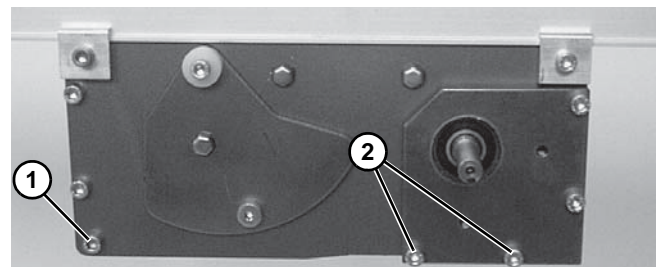

Figure 74
- Tighten corner screws (**Figure 74, item 1**) on each side of the drive module to 80 in-lb (9 Nm).
- Re-install tension door screws (**Figure 74, item 2**) on each side of the module. Tighten screws to 60 in-lb (6.8 Nm).
*With vertically mounted gearmotors, tension door screws (**Figure 74, item 2**) are installed on one side when the gearmotor mounting package is installed.*